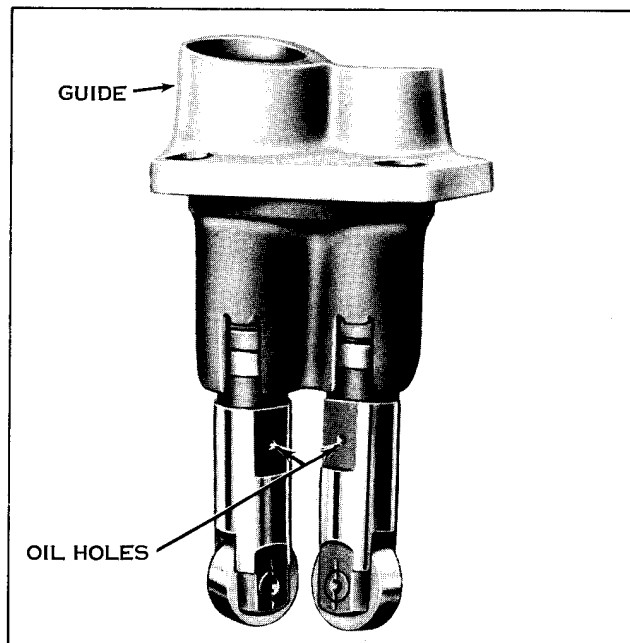

Figure 3-26. Inserting Tappets on Guide
Assemble tappets as follows: Slip tappets (5) into guide (4) so flat surfaces on tappets are toward center of guide as shown in Figure 3-26. If flat surfaces with holes are not toward center of guide, engine oil will not feed across and one hydraulic unit cannot fill with oil. Assemble tappet guide gasket